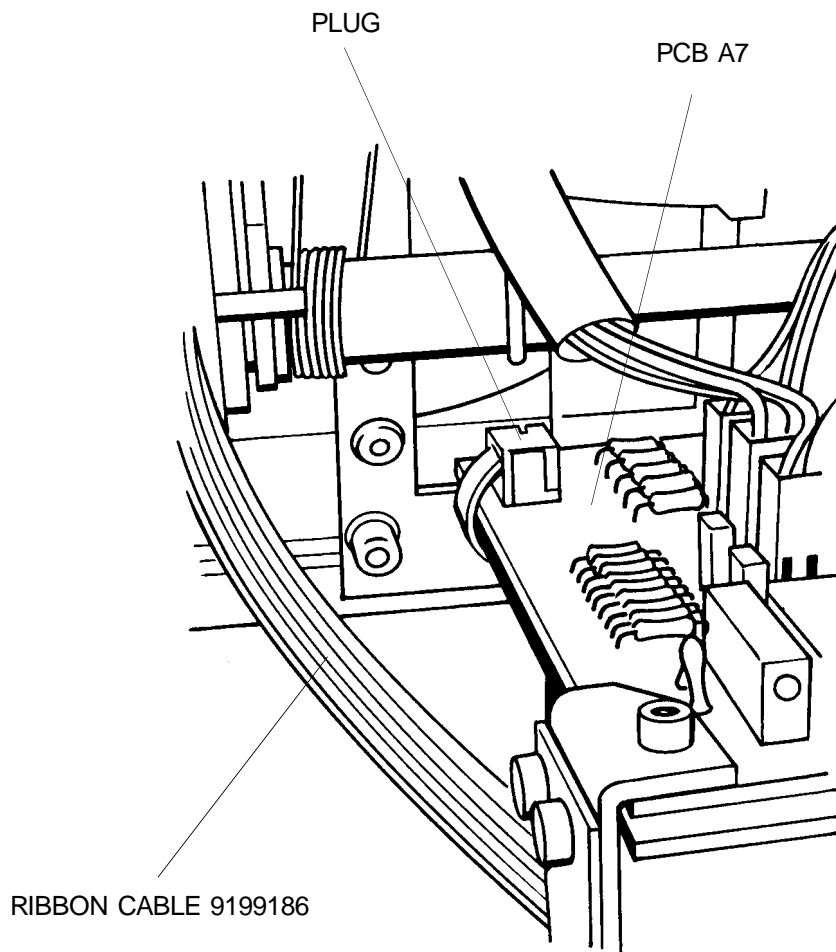

figure 11
- 14.** Insert PLUG of RIBBON CABLE 9199186 as shown in figure 11.